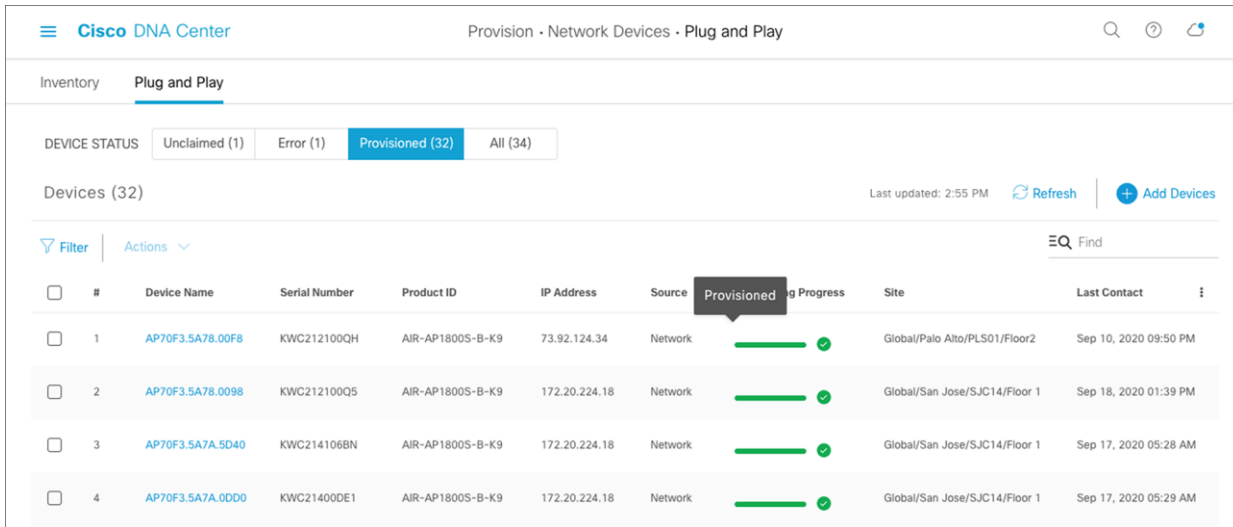

Figure 55. Sensor provisioning – sensors in provisioned state after claiming
8. Ensure that the device status changes from Unclaimed to Planned to Onboarding to Provisioned (Figure 55).
- Option 1 – Cisco.com image import: Before upgrading the image, mark the new image within the Image Repository page (viewed by clicking Design > Image Repository within the hamburger menu) as a golden image so that it will be used as the new sensor software. You mark the new sensor software as the golden image by clicking the star icon next to the desired image in the list (Figure 55).